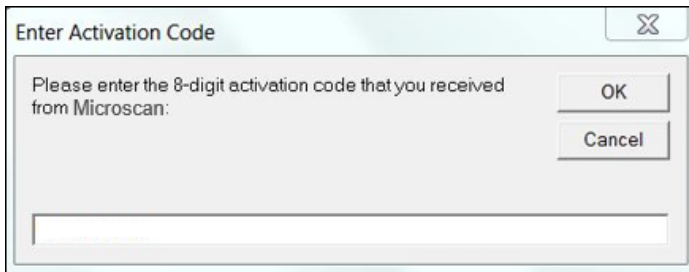

Figure 4: Enter Activation Code window
3. Next to “Custom applications (multi-sector),” click “not available (click here to enter activation code).” The “Enter Activation Code” window appears (Figure 4). Enter the 8-digit activation code received from Omron Microscan or an Omron Microscan distributor and then click “Ok.”